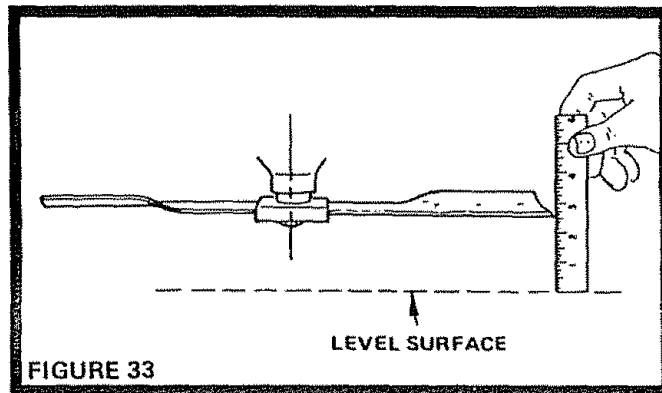

FIGURE 33
2. Measure the height of the tips of outer blades (Fig. 33). Both R.H. and L.H. must be the same distance from level surface within 1/8 of an inch.
1. Your Mower should cut approximately 3/16" lower at front than at the rear. With R.H. Mower Blade in line with length of tractor, measure the height of the front tip of Blade (Fig. 33). Rotate Blade 1/2 turn and measure. The front tip must be approximately 3/16 of an inch lower than the rear tip of blade.